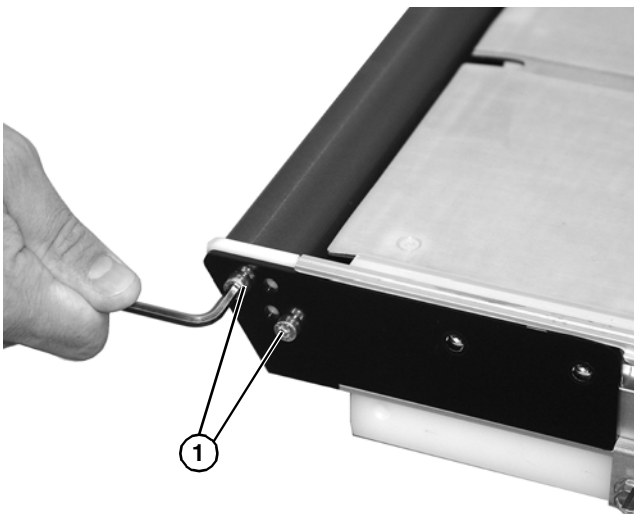

Figure 50
2. On the same side of conveyor, remove two (2) fastening screws (**Figure 50, item 1**).